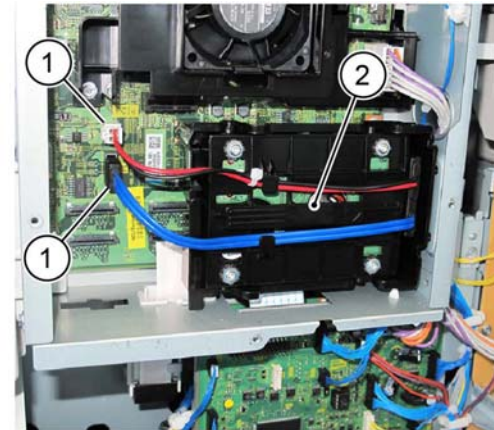

Figure 2 HDD removal
5. If the machine has an HDD assembly installed, remove the HDD assembly, Figure 2:
- a. Disconnect the connectors (1).
- b. Remove the HDD assembly (2).